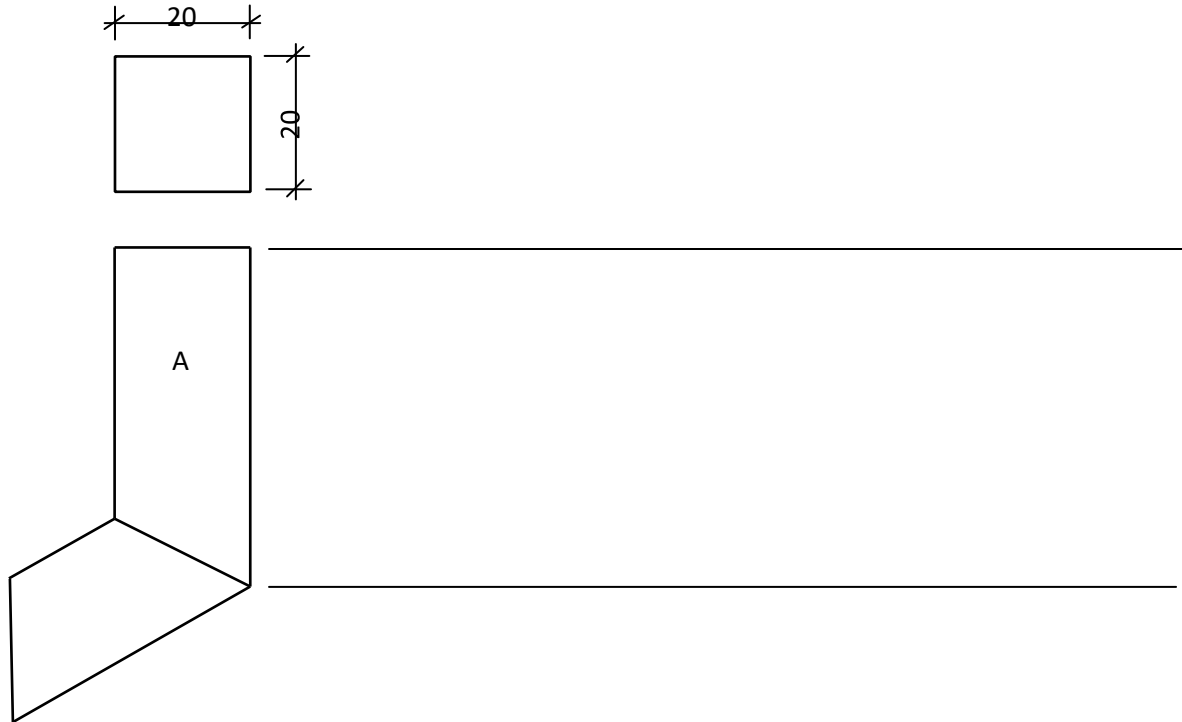

FIGURE 1.8
- 1.8 **FIGURE 1.8** is a drawing of the shoe of a square gutter. Develop and draw the development of part **A** of the shoe. Use scale 1: 1. Show 4 mm for the seam allowance on either side of the development. (12)